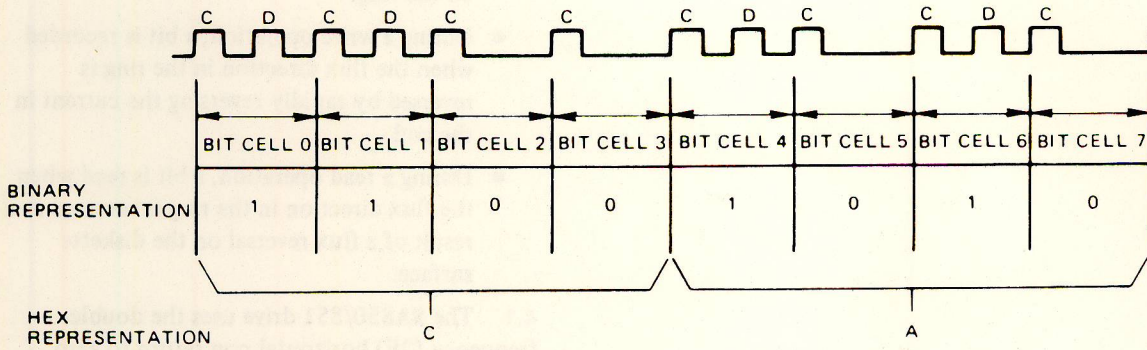

FIGURE 25 BYTE
4.1 The SA850/851 drive uses the double-frequency (2F) horizontal non return to zero (NRZI) method of recording. Double frequency is the term given to the recording system that inserts a clock bit at the beginning of each bit cell time thereby doubling the frequency of recorded bits. This clock bit, as well as the data bit, are provided by the using system. See Figure 25.